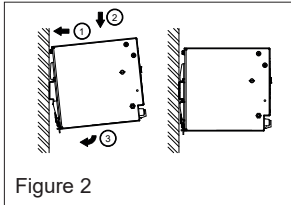
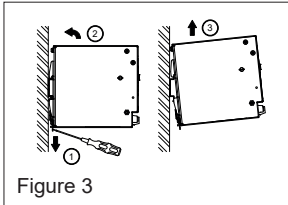

Figure 2
Figure 3
## 3. Mounting and dismantling (Fig. 2, Fig. 3)
- Tilt the unit slightly upwards and put it onto the DIN rail. Snap on the DIN rail as shown in Fig. 2.
- To uninstall, pull or slide down the latch as shown in Fig. 3. Then, slide the PSU in the opposite direction, release the latch and pull out the PSU from the rail.